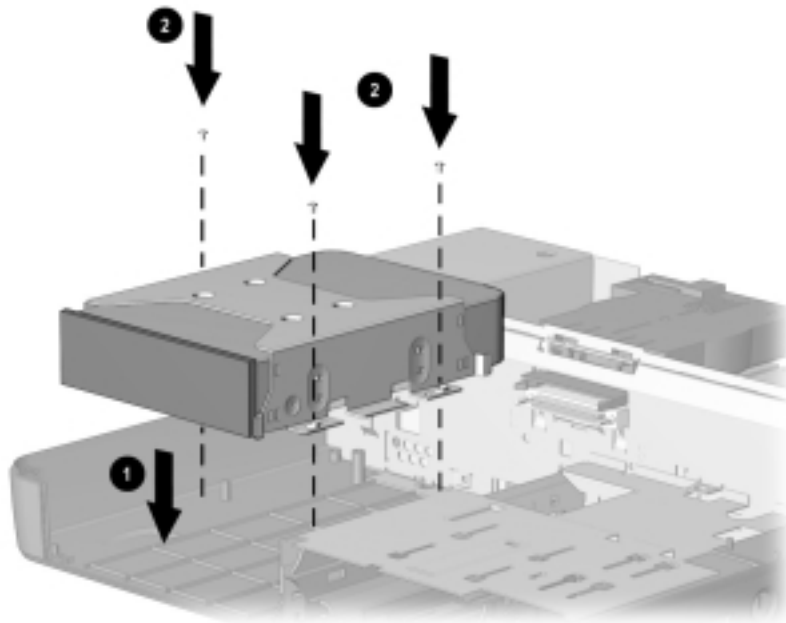

Figure 5-22. Installing a Half-Height Drive
16. Insert the half-height drive assembly into the base cover ❶ (Figure 5-22).
17. Install the three screws ❷ that secure the bezel cage to the base cover.